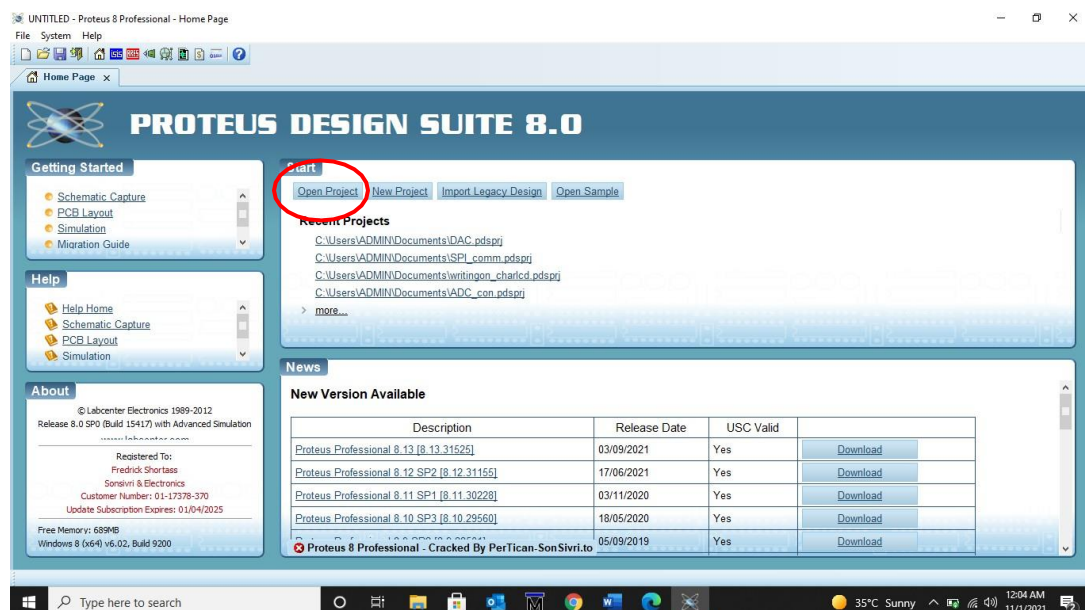

Figure 1: Home page of Proteus Design Suite 8.0
Step 2: Open Proteus. At the home page, click on New Project as shown in figure 1.